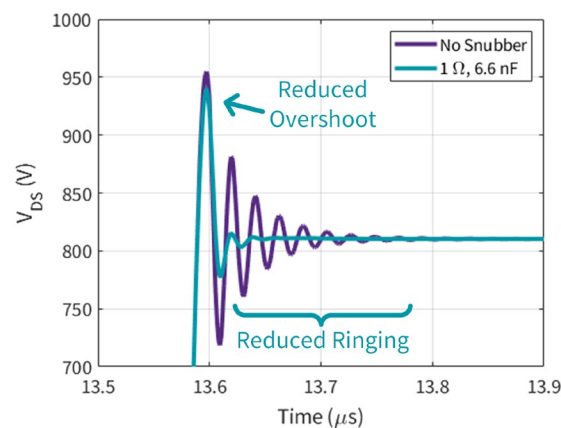

Figure 21: Simulation comparison with and without a snubber circuit
These features together minimize the PCB inductance of the design and reduce the device V_{DS} overshoots. Even with these features, some users still prefer to use snubber elements to further reduce the risk of overshoot and ringing. The *Power Stage* includes a resistor-capacitor (RC) snubber circuit placed very close to the power module terminals to create a dissipative shunt path for high-frequency energy. When sized appropriately, an RC snubber can reduce the power module maximum overshoot voltage and damp oscillatory ringing. Figure 21 shows the influence on device V_{DS} of a CBB011M12GM4 full-bridge power module in an Analog Devices® LTspice® double-pulse test (DPT) simulation. The simulation was performed at a bus voltage of 800 V and a load current of 100 A. The introduction of the snubber elements reduces both the overshoot and the oscillations significantly. For more information about the DPT simulation for evaluating performance in different operating conditions, visit <https://www.wolfspeed.com/tools-and-support/power/ltspice-and-plecs-models/>.